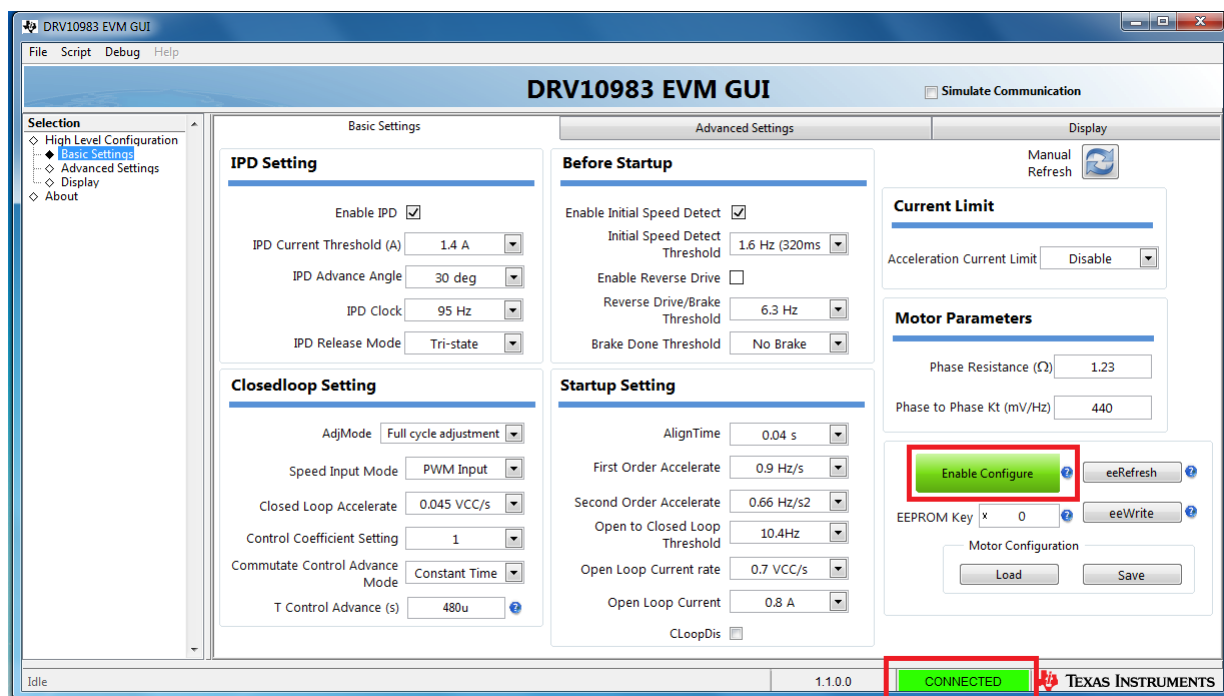

Figure 7. Enable Configure
8. CONNECTED should turn green, indicating that the GUI is communicating with the device. Select Enable Configure to turn the button to green as well (see Figure 7).